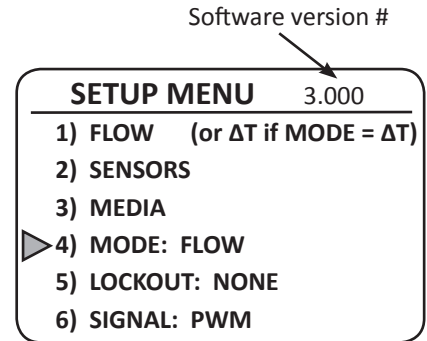

Figure 6: Setup Menu (Mode)
1. Press and hold the center button to enter Setup Menu (Fig. 6).